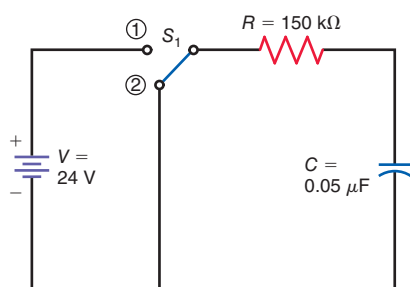

Figure 21-20
- 21.26** What is the time constant of the circuit in Fig. 21-20?
- 21.27** Assume that C in Fig. 21-20 is completely discharged with S_1 in position 2. If S_1 is moved back to position 1, how long will it take for the capacitor voltage to reach
- 21.28** Assume that C in Fig. 21-20 is completely discharged with S_1 in position 2. If S_1 is moved back to position 1, how much is the resistor voltage at the following time intervals?
- 21.29** Assume that C in Fig. 21-20 is fully charged with S_1 in position 1. If S_1 is moved to position 2, how long will it take the capacitor to discharge to